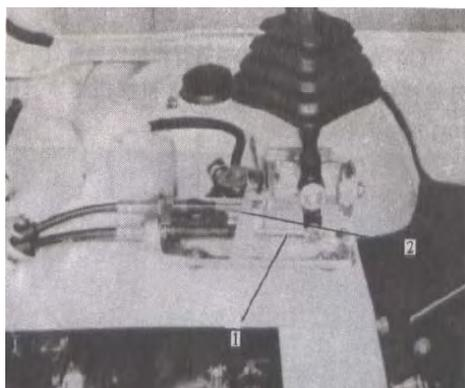

Fig 10-100
(1) Disconnect centre console box.
(2) Disconnect gear shift cable ① and select cable ② from gear shift control lever and loosen bolt (FIG.10-100)